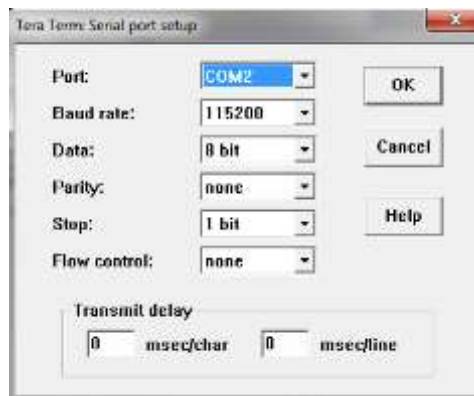

Figure 53: Serial port setup
- 9) Open the terminal emulator and connect it to the port that is connected to USB UART. Tera Term is used in this example. Please refer the settings used in Figure 53.